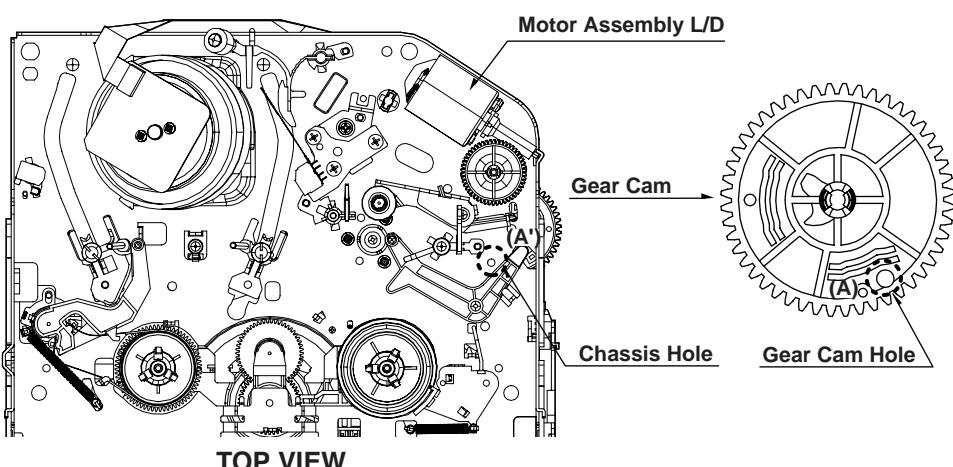

Fig. C-2
1) Turn the VCR on and take the tape out by pressing the eject button. 2) Separate both top cover and plate top, and check both the hole (A) of gear cam and the hole (A') of chassis correspond (Fig. C-2). 3) If it is done as in the paragraph 2): Turn the gear cam as in No.2) after mantling the motor assembly L/D.	4) Undo the screw fixing the deck and the main frame, and separate the deck assembly. Check both the hole (A) of gear cam and the hole (A') of chassis correspond (Fig. C-1). 5) Check the mode S/W on the main P.C. board locates at a proper position as in (B) of the Fig. (C-1). 6) Connect the deck to the main P.C. board and perform all types of test.